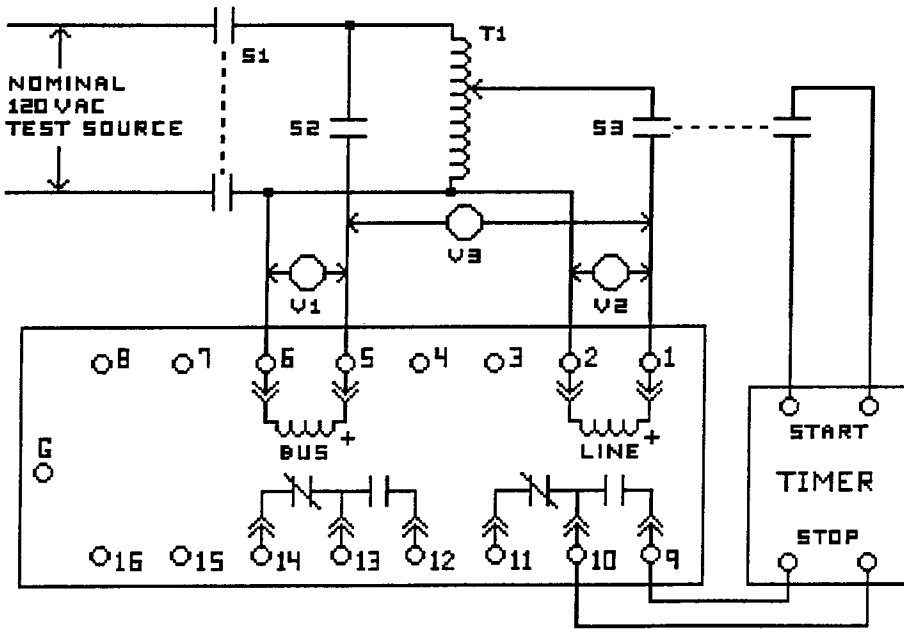

FIGURE 5: TEST CIRCUIT CONNECTIONS
A typical test circuit for these tests is shown in Figure 5.
6. Refer to Figure 5. Open switch S1. Interchange the BUS and LINE voltage input connections to the relay, so that T1 now controls the BUS voltage input.
9. *Return the test connections to the original arrangement per Figure 5.*
2. Referring to Figure 5, close switches S1, S2, S3.
2. Referring to the test circuit in Figure 5, close switches S1, S2, and S3.